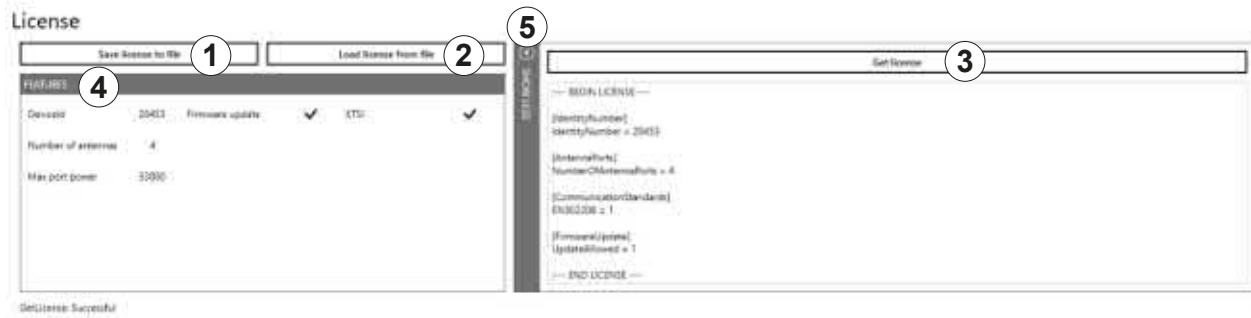

Fig. 30: Info: license key
1. To do so, click **Save license to file** (① in Fig. 30).